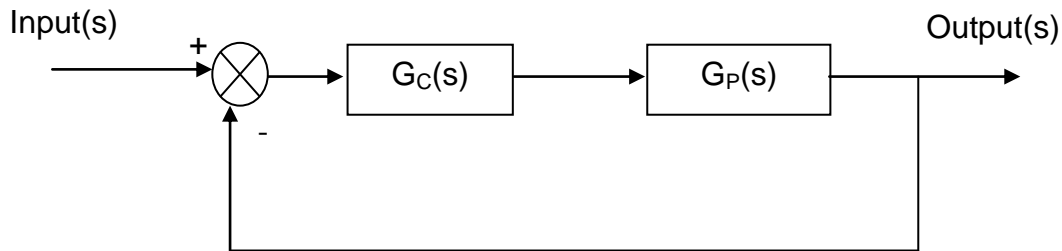

Figure Q3
3. Consider the control system shown in Figure Q3 with its closed loop form.